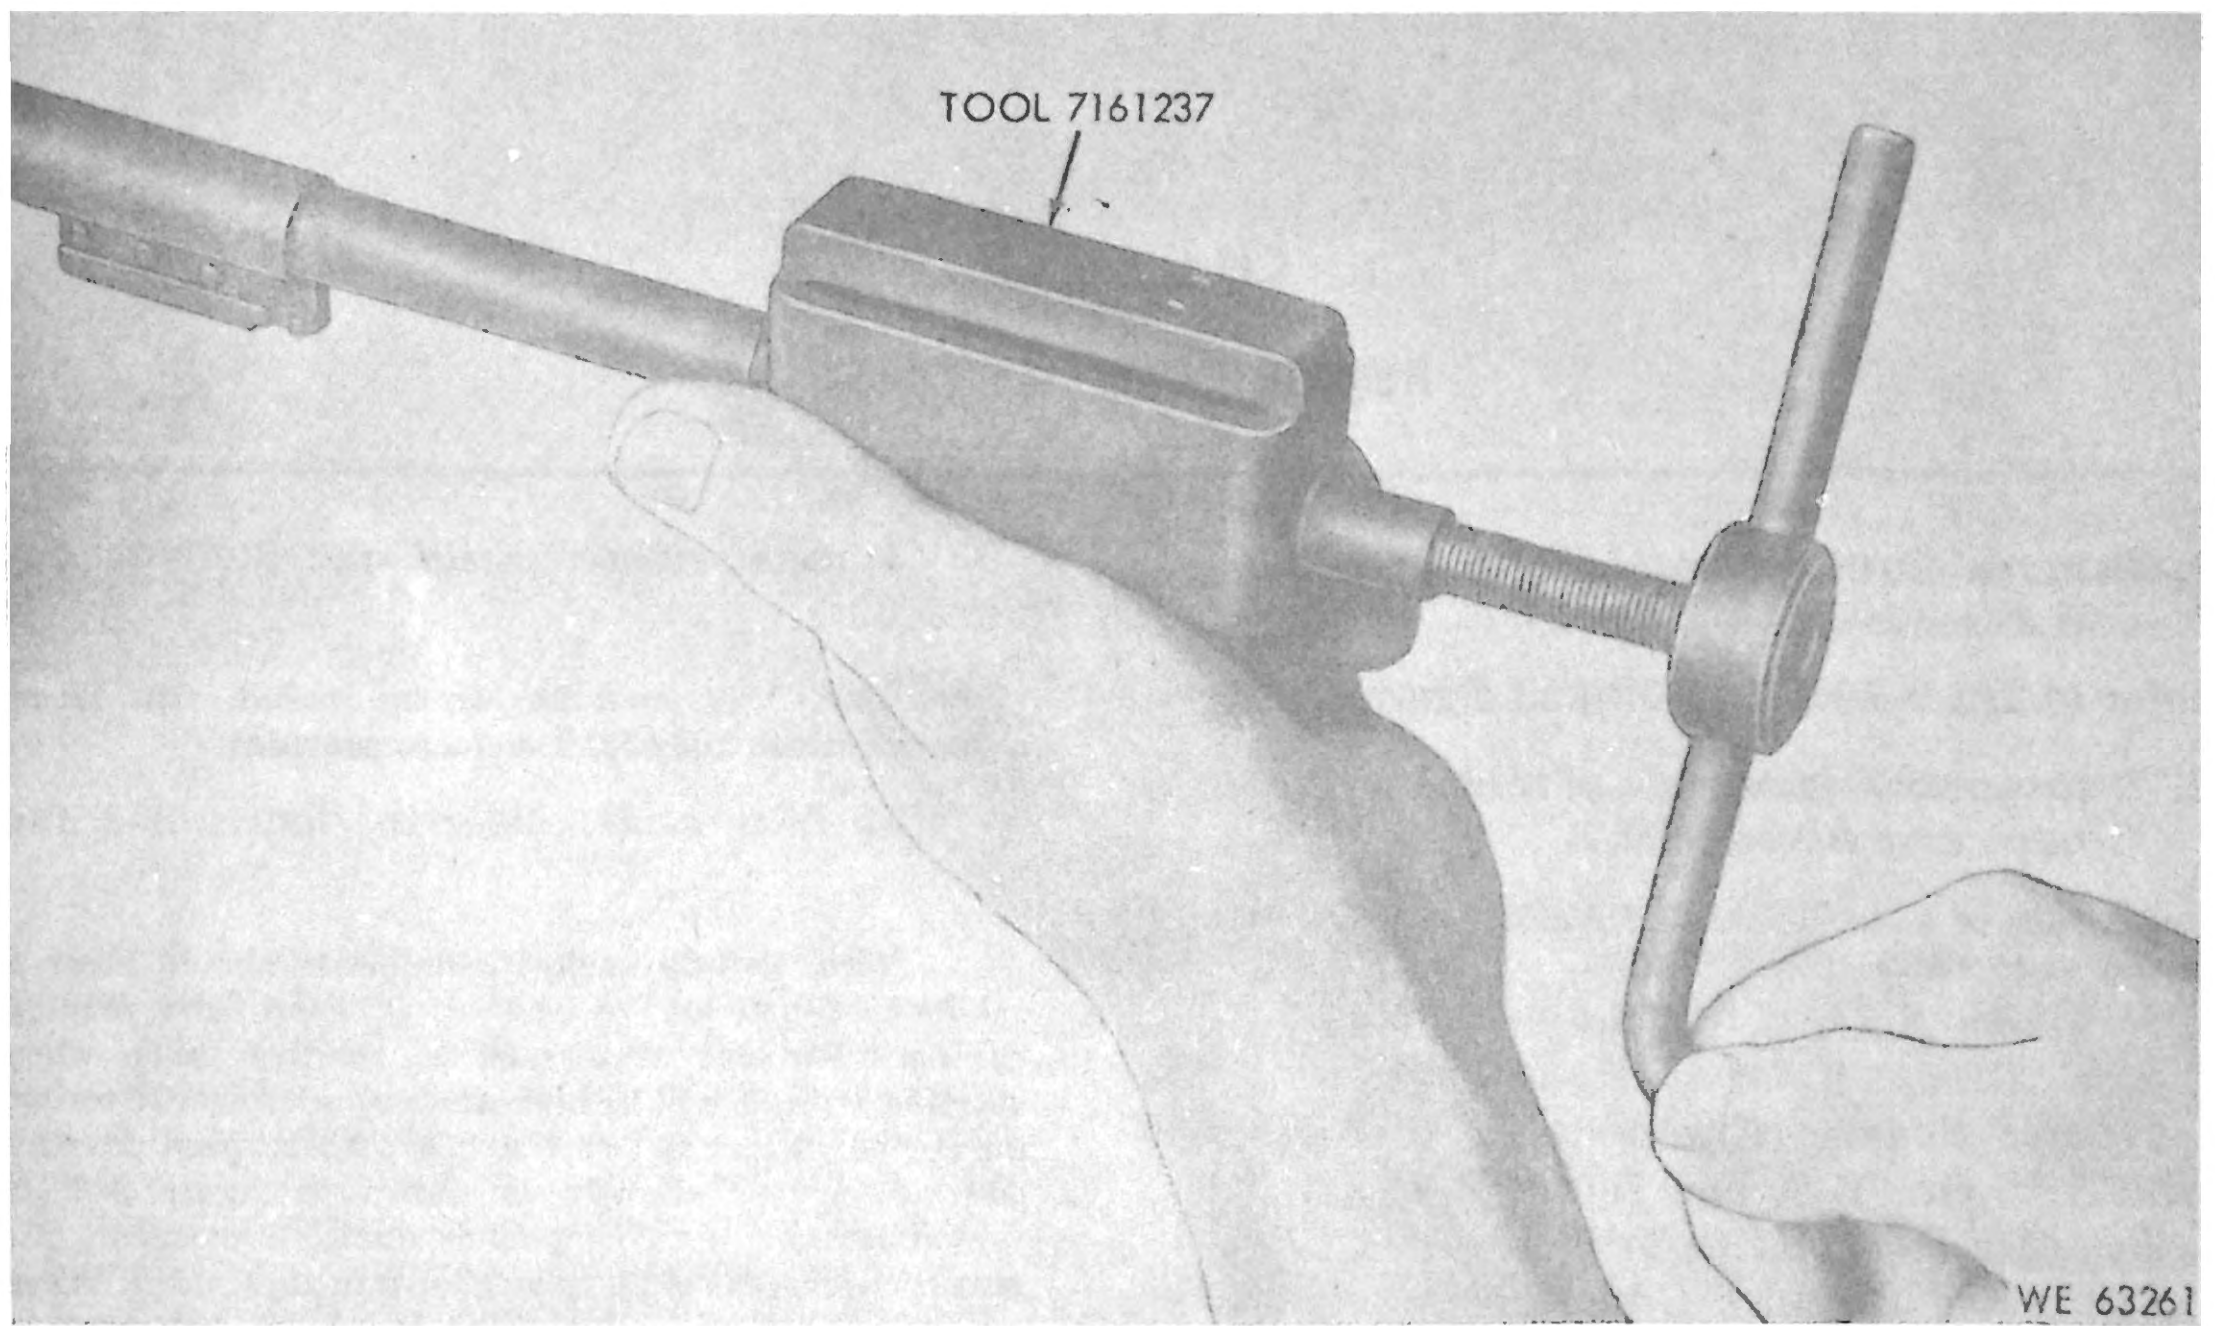

Figure 3-1. Removing front sight using tool 7161237.
- (2) *Front sight.* Refer to figures 3-1, 3-2 and B-5.